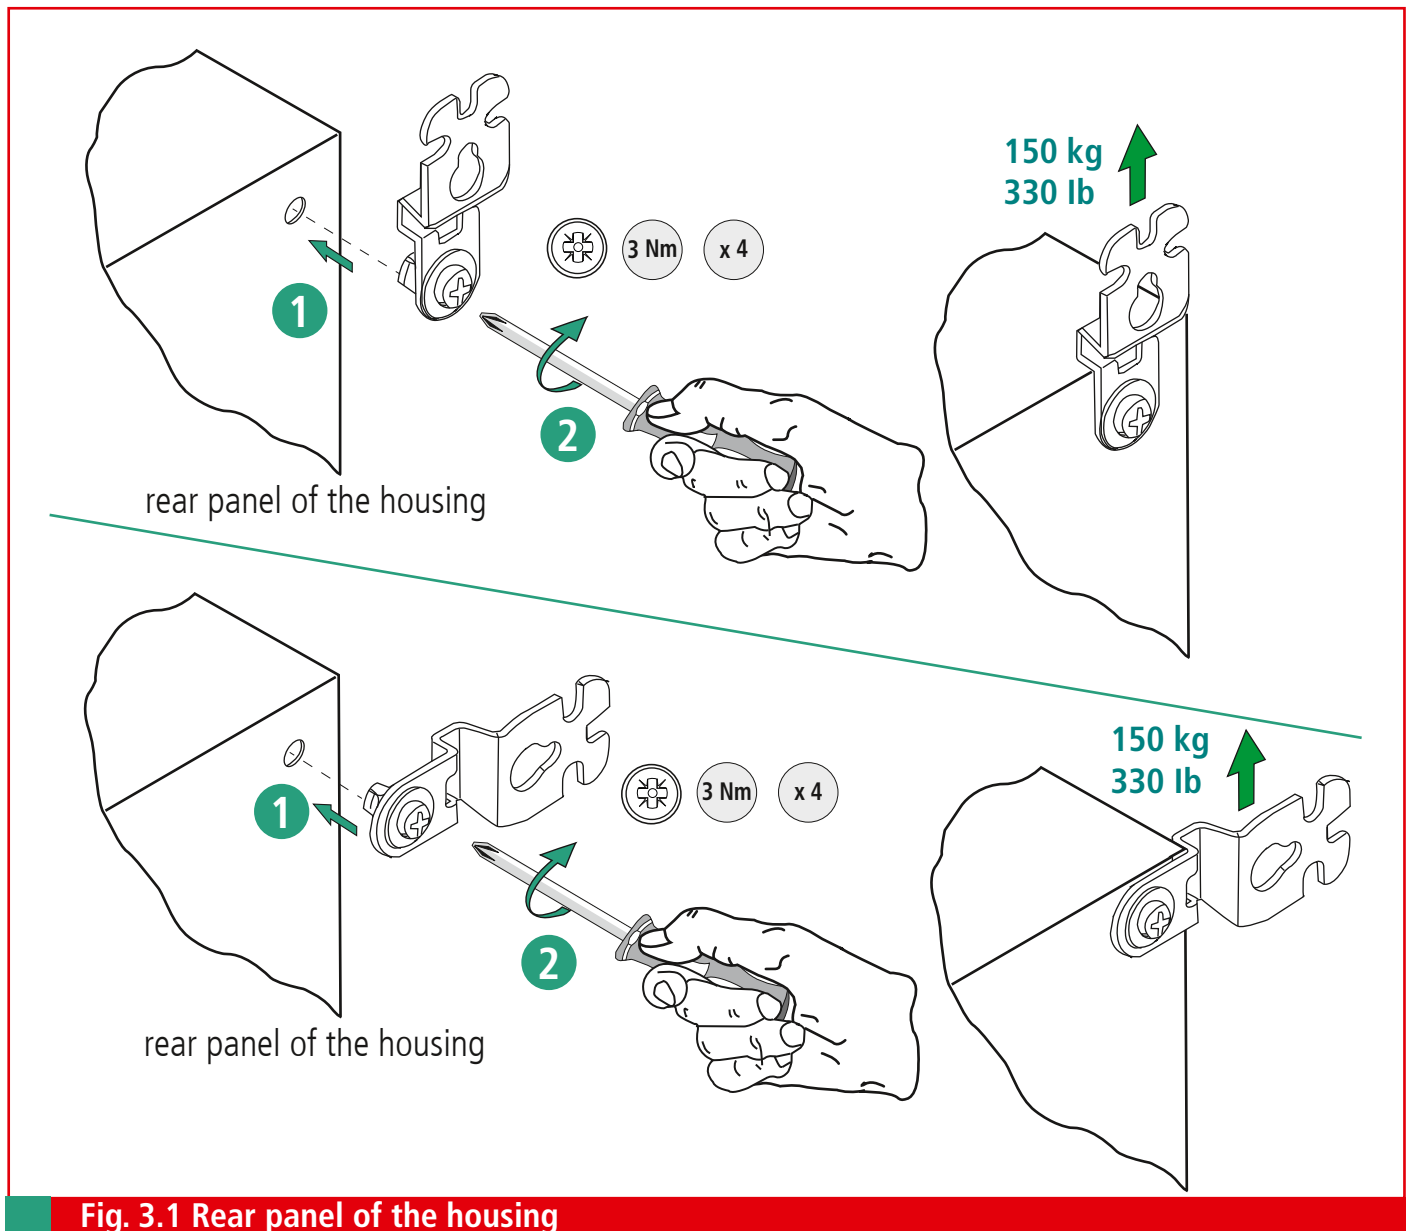

Fig. 3.1 Rear panel of the housing
The VCSD 40 IP65 **voltage-controlled smart decoupling device** can be wall-mounted using the wall mounting brackets supplied (see Fig. 3.1).
- ➔ Then, the mounting brackets are inserted into the relevant boreholes and tightened (see Fig. 3.1).